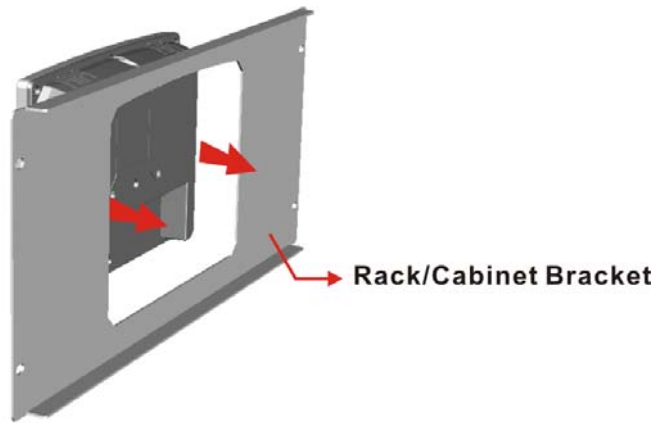

Figure 3-20: The Rack/Cabinet Bracket
Step 1: Slide the rear of the PPC-5152-D525 panel PC through the rack/cabinet bracket until the aluminum frame is flush against the front of the bracket (**Figure 3-20**).